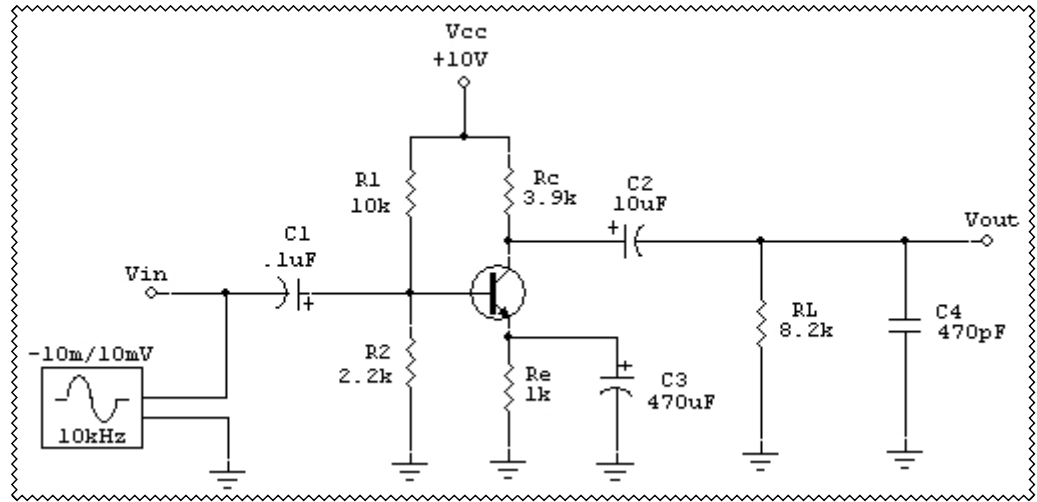

Fig.1
1. Assemble the circuit in Fig. 1: